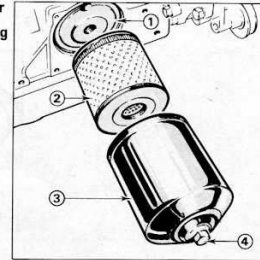
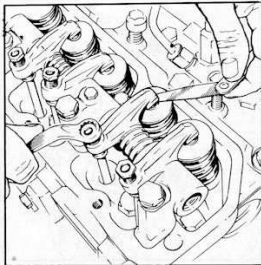

Fig. 7 Bolt Tightening Sequence—4 Cyl.
Fig. 10 Valve Clearance Adjustment
3. Tighten the cylinder head bolts in the correct sequence (shown in Figs. 7 and 8) to a torque of 135–150 Nm (103–110 lb.ft). Recheck valve clearances, Fig. 10.
rocker arm and valve stem (Fig. 10) so that the feeler blade can be removed with slight resistance.